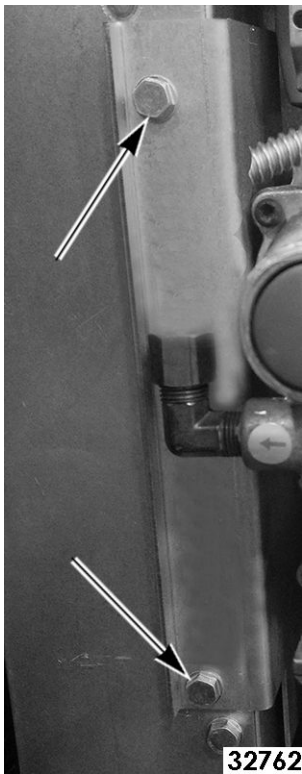

Fig. 3
6. Remove screws (Fig. 3) securing gas mount bracket to oven.